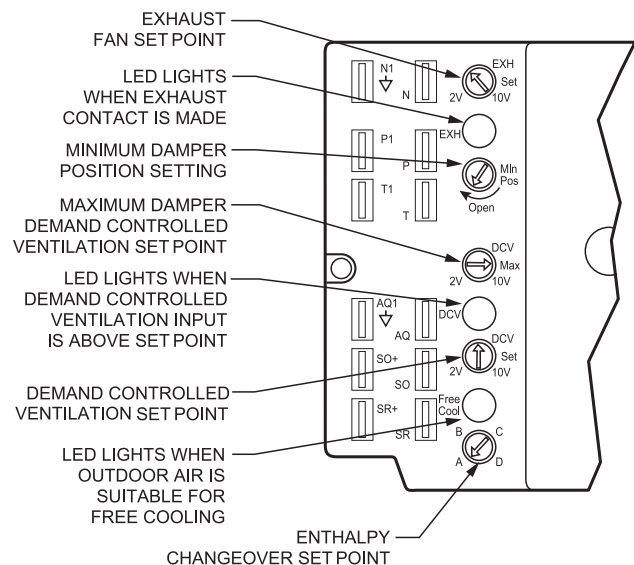
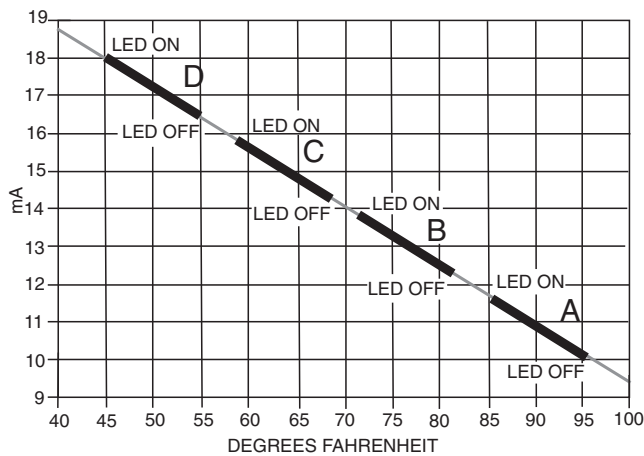
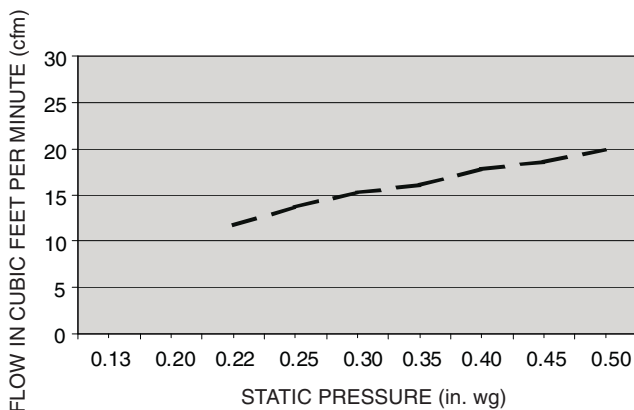

Fig. 69 — EconoMi\$er IV Controller Potentiometer and LED Locations
Fig. 70 — Outside Air Temperature Changeover Set Points
Fig. 71 — Outdoor-Air Damper Leakage
The standard controller is shipped from the factory configured for outdoor dry bulb changeover control. The outdoor air and supply air temperature sensors are included as standard. For this control mode, the outdoor temperature is compared to an adjustable set point selected on the control. If the outdoor-air temperature is above the set point, the EconoMi\$er IV will adjust the outside air dampers to minimum position. If the outdoor-air temperature is below the set point, the position of the outside air dampers will be controlled to provided free cooling using outdoor air. When in this mode, the LED next to the free cooling set point potentiometer will be on. The changeover temperature set point is controlled by the free cooling set point potentiometer located on the control. See Fig. 69. The scale on the potentiometer is A, B, C, and D. See Fig. 70 for the corresponding temperature changeover values and Fig. 71 for damper leakage.
In this mode of operation, the outdoor-air temperature is compared to the return-air temperature and the lower temperature airstream is used for cooling. When using this mode of changeover control, turn the enthalpy set point potentiometer fully clockwise to the D setting. See Fig. 69.
The exhaust set point will determine when the exhaust fan runs based on damper position (if accessory power exhaust is installed). The set point is modified with the Exhaust Fan set point (EXH SET) potentiometer. See Fig. 69. The set point represents the damper position above which the exhaust fans will be turned on. When there is a call for exhaust, the EconoMi\$er IV controller provides a 45 ± 15 second delay before exhaust fan activation to allow the dampers to open. This delay allows the damper to reach the appropriate position to avoid unnecessary fan overload.
There is a minimum damper position potentiometer on the EconoMi\$er IV controller. See Fig. 69. The minimum damper position maintains the minimum airflow into the building during the occupied period.
3. Ensure that the factory-installed jumper is in place across terminals P and P1. If remote damper positioning is being used, make sure that the terminals are wired according to Fig. 69 and that the minimum position potentiometer is turned fully clockwise.